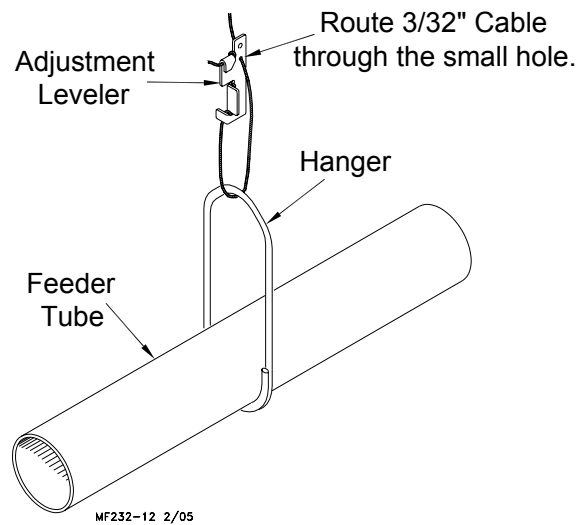

Figure 29. Adjustment Leveler and Hanger Installation.
6. Install the Hangers on the tubes on 8' (2.4 m) spacings determined by the suspension drop lines. **Figure 29** shows the proper installation of the Hanger Assembly. Make sure the outlet drop hole is down when the hangers are installed, otherwise feed will not be allowed to drop into the feeder pan.
7. Install the Adjustment Leveler within 6" (152 mm) of feeder line hanger. **Figure 29** shows the proper cable routing around the Adjustment Leveler.